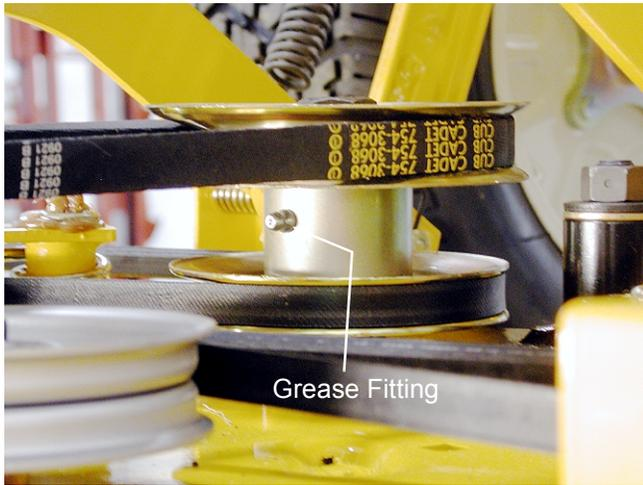

Figure 2
2. A grease fitting has been added to the double stack pulley to increase bearing life. See Figure 2.